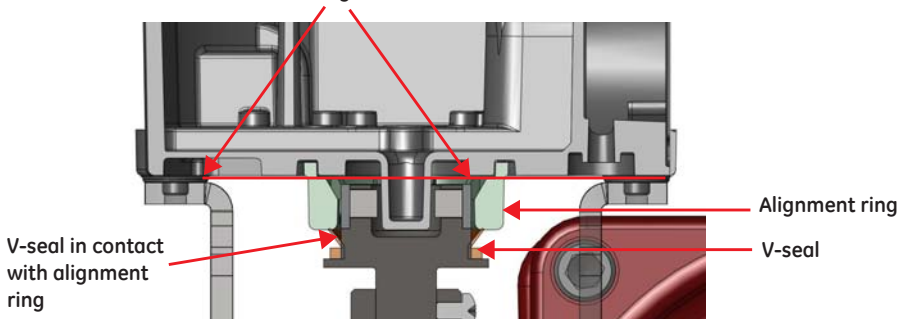

Figure 11 Camflex V-Seal
6. Ensure that the V-Seal makes contact with the skirt around the alignment ring on the SVi1000 (Figure 11).